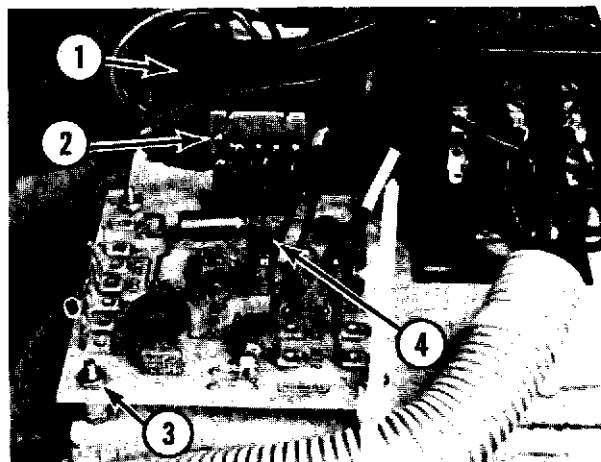

Fig. 14-5
- (1) Low voltage (200-230). When the line voltage is 200 or 230 volts, a jumper is connected between L1 and H3. Another jumper connects L2 and H2.
- (2) High voltage (460). When the line voltage is 460 volts, a single jumper is connected between H2 and H3.
A. Transformer (1, Fig. 14-5).
- (1) 60 Hz. power is supplied through fuses 1FB and 2FB on the fuse board to the primary windings of the transformer. The transformer secondary windings provide 20VAC to the motor protector circuit and 120VAC to the control circuit.
- (2) 50 Hz.
B. Power Input Board (2, Fig. 14-5).
- (1) The output voltages of the transformer are connected to the motor protector board through the power input board which plugs into a six pin connector on the motor protector board.
- (2) The power input board has a 3 amp fuse (3FU) in the 20 volt line to protect the motor protector circuit.
7. Motor Protector Board (3, Fig. 14-5).
- D. Anytime an overheated motor is sensed the light emitting diode (LED) (4, Fig. 14-5) on the motor protector board will light.